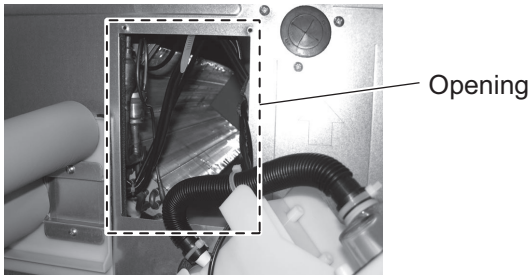
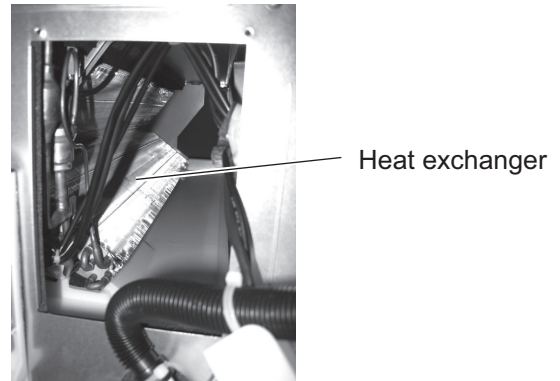

Fig. 2a
Fig. 2b
4. Insert a high pressure cleaner from the opening (Fig. 2a) and clean the heat exchanger. (Fig. 2b)